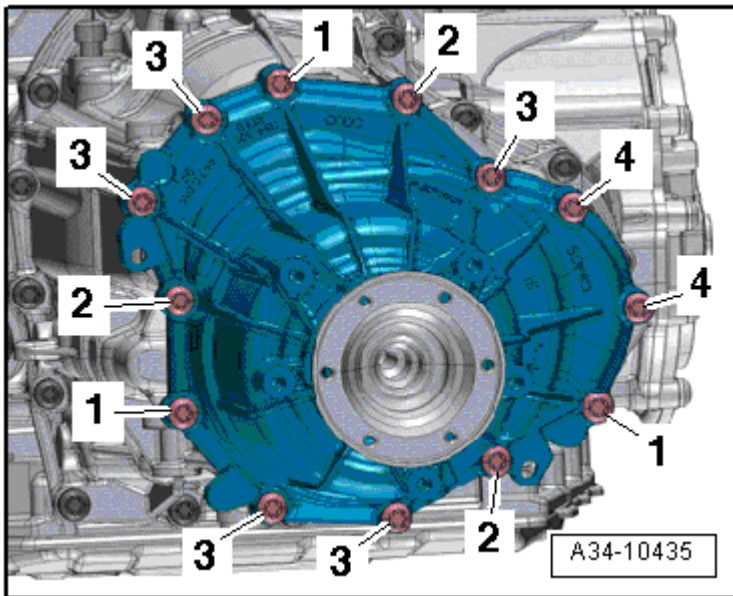

Fig. 19: Tightening Specification And Sequence, Center Differential Housing - Attached Driveshaft
- Tightening specification and sequence, refer to **Fig. 19**